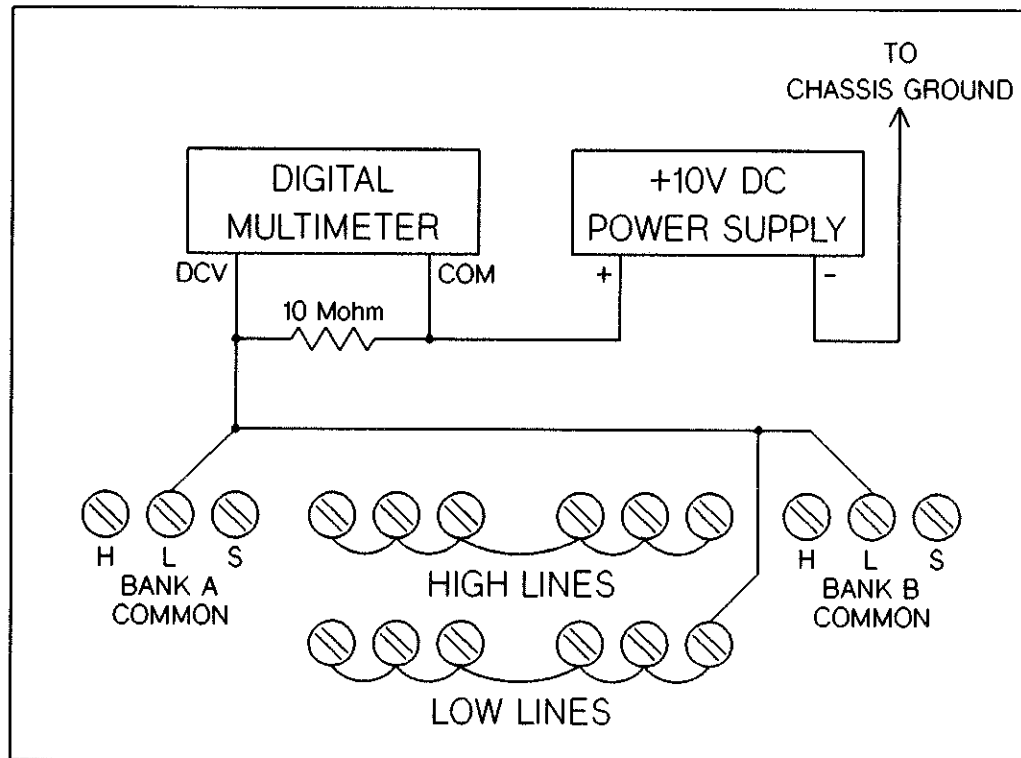

Figure 10-22 HP 44711A Closed LOW Channel Test Set-Up
28. Refer to Figure 10-22. On the test fixture, connect the shorted LOW lines to the Bank A common LOW test point. Short the Bank A and Bank B LOW common test points together.